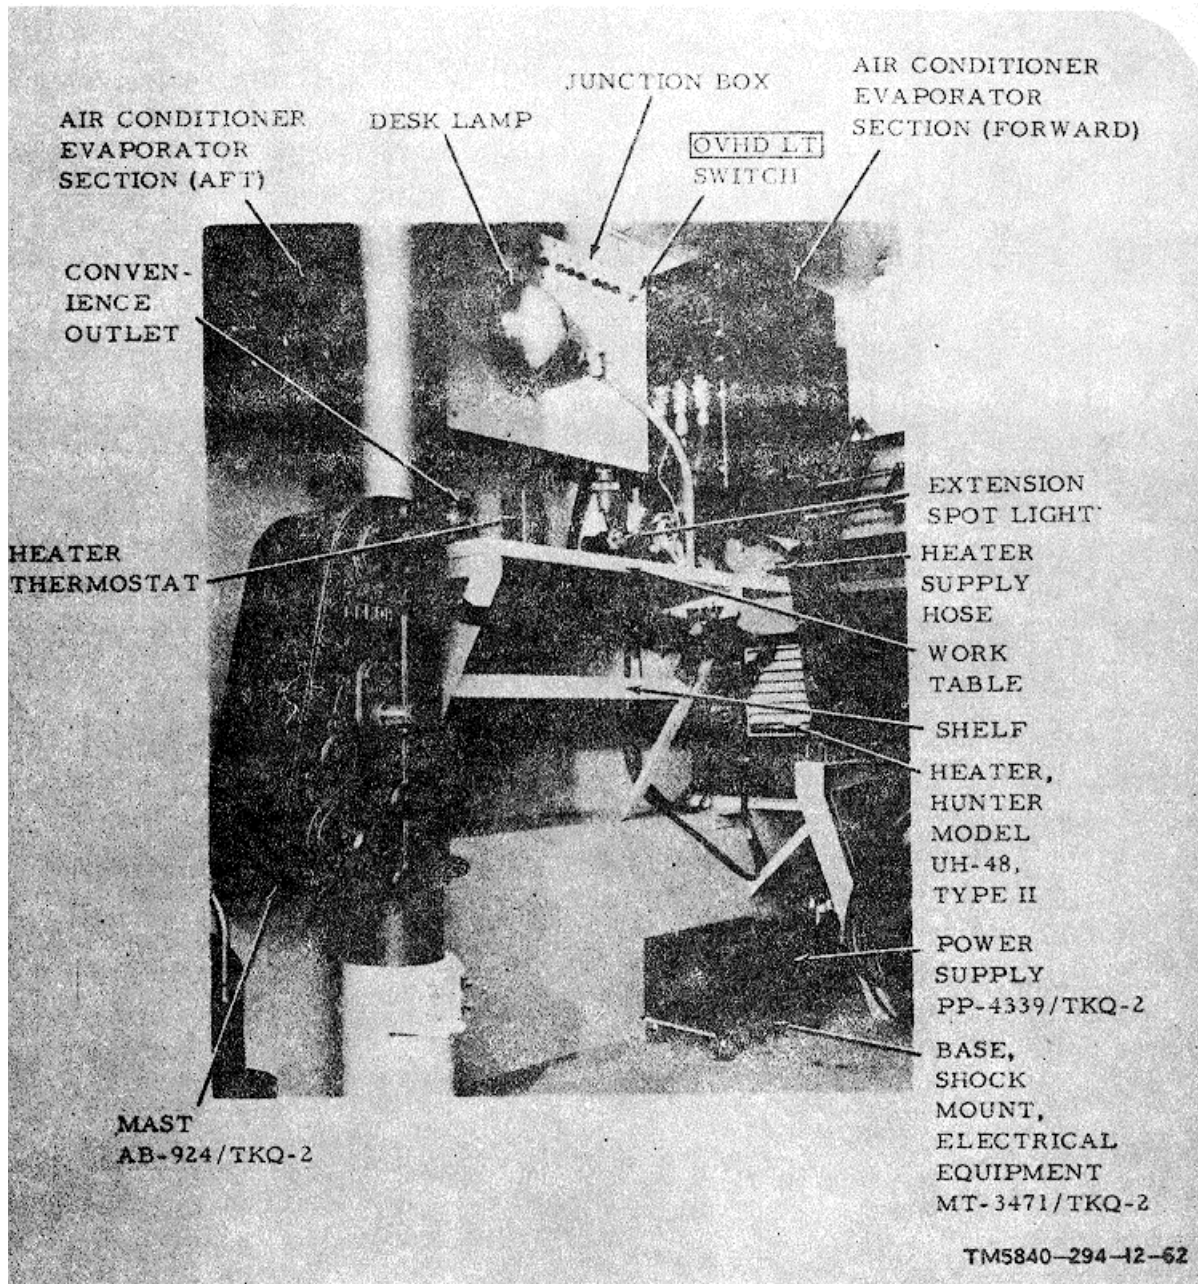

Figure 1-8. Shelter, Electrical Equipment S-339/TKQ-2, left wall, interior view.
a. Installations inside the shelter include an equipment rack that fits against the front wall. The communications receiver-transmitter and the data receiver are mounted on stationary racks secured to the top shelf of the equipment rack. Two sliding racks, attached to the lower portion of the equipment rack, contain the target indicator (fig. 1-8) and the video decoder. When the data receiving set is in use, the processor-viewer is mounted on the front of the target indicator. The power supply is mounted on a sliding rack secured to the shelter floor beneath the equipment rack. Two stationary racks, secured to the shelter floor to the left of the equipment rack, contain the hv power supply (fig. 1-) and the d/a converter. Primary power for the operating components discussed above is connected through an interconnection box on the shelter front wall. This power is applied to Mounting MT-1029/VRC, the data receiver, and the power supply when the data receiver (R1885/ G) is used. Antenna Matching Unit MX- 2799/VRC and Base, Antenna Support AB- 719/VRC (part of the communications antenna), which provide for interconnection of the communications receiver-transmitter and the communications antenna, are mounted on the shelter roof (MX-2799/VRC inside, AB-719/VRC outside) above the data receiver. When the data receiver (R-1335A/G) is used, Matching Unit-Base, Antenna MX-6707/
VRC (part of the communications antenna), which provides for interconnection of the communications receiver-transmitter and Antenna Element AS-1730/VRC, is mounted through the shelter roof above the data receiver. Power Supply PP-6305/G, the primary source of 28 volts direct current (dc) within the shelter, is mounted on the shelter inside rear wall (fig. 1-8).
b. The junction box (fig. 1-8) on the shelter left wall incorporates the junction panel (fig. 1-4) on the outside of the wall. This